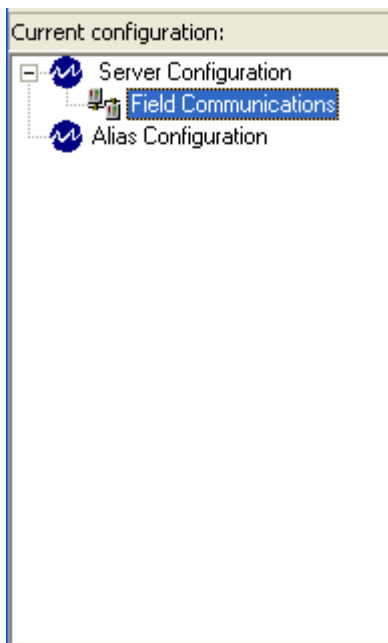

Figure 12 - New Field Communications Object
8. Click on the **OK** button. The object is created and appears as a child of the **Server Configuration** item as shown in Figure 12.